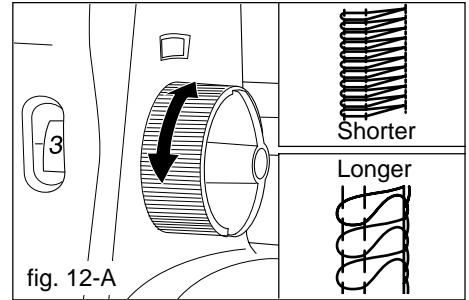

fig. 12-A
- For shortest stitch, turn dial to 1. (fig.12-A)